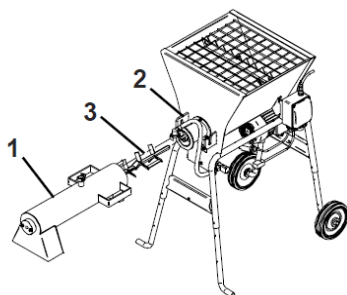

FIG. 4
To facilitate transport, the machine can be disassembled as shown in fig.4.
13. MIXER CLEANING AND SHUTDOWN (see fig. 4)